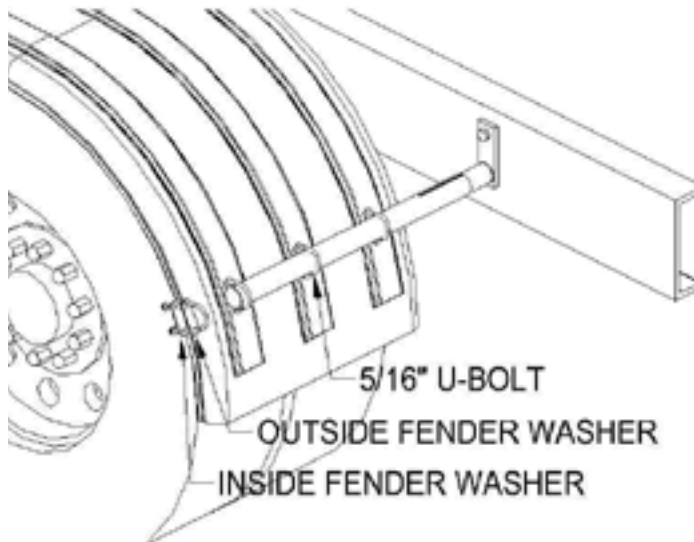

Figure 9
- A. Drill six 5/16" holes thru fender using the holes in fender washers as a guide. Install the 5/16" x 2" x 3.5" U-bolts thru the bracket and into the fender. Use two fender washers per u-bolt. Place one on the inside and outside of fender. Use 3 U-bolts per fender bracket tube. Do not over tighten U-bolts. Hand tightening of bolts is suggested. Make sure the fenders are square and aligned. Twists or bows in the fender will fatigue the material over time. See figure 9.